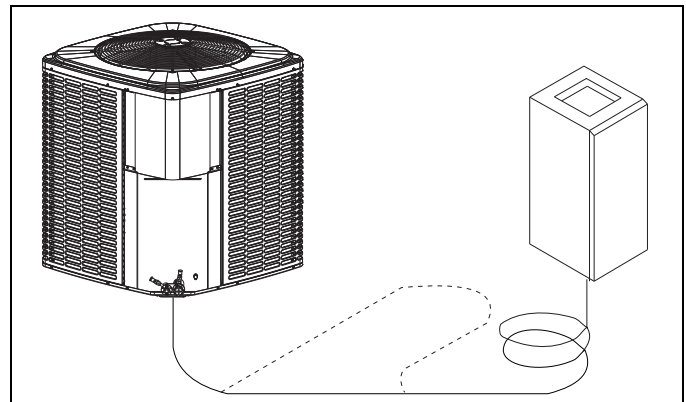

FIGURE 3: Excess Tubing
- Excess tubing must be coiled horizontally so the flow of refrigerant is from top to bottom of the coil and toward the outdoor unit. Another method is to form a horizontal "U" large enough to take care of excess. See Figure 3.